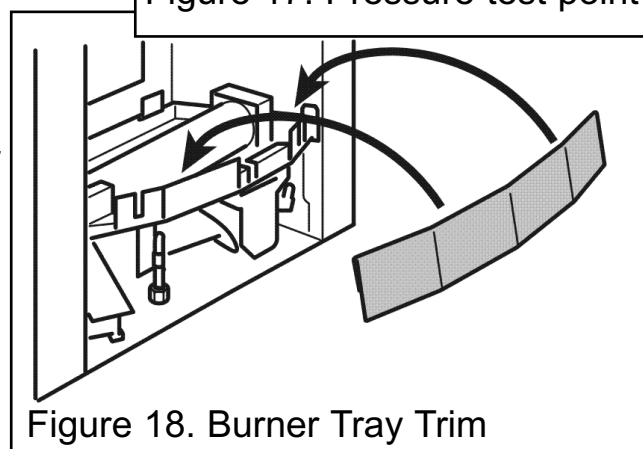

Figure 18. Burner Tray Trim
1. Fit the burner tray trim over the front rim of the burner tray. Push the trim fully down (See figure 18).